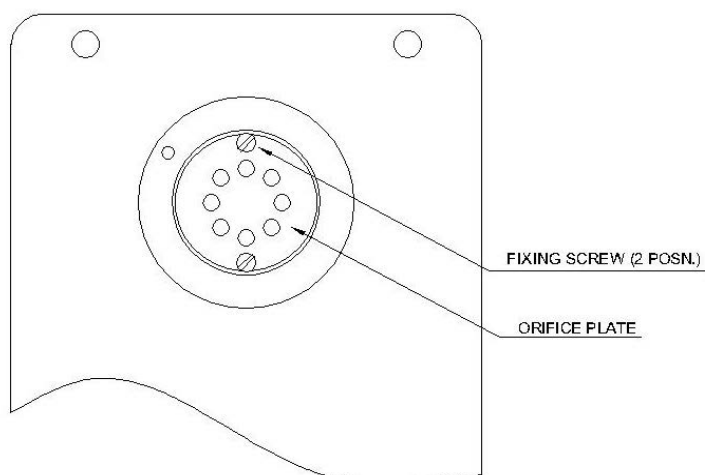

Figure 1: Orifice Plate Fixing
2. Position in the orifice plate in over the purge air entry in the back of the SmartPurge Controller. Secure in place using the 2 screws supplied. Refer to Figure 1 for guidance.